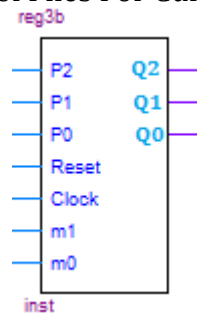

Figure 4. Block symbol for the three-bit register.
6. Convert the 3-bit register Verilog module you implemented to a block as in Figure 4. This block will be used in the final circuit implementation in part 3.